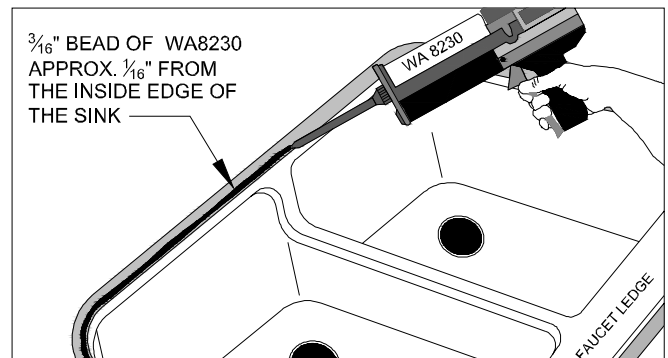

Figure 16C
- Apply the WA8230 - LS Sink Seam Adhesive to the sink flange. (FIG. 16C)